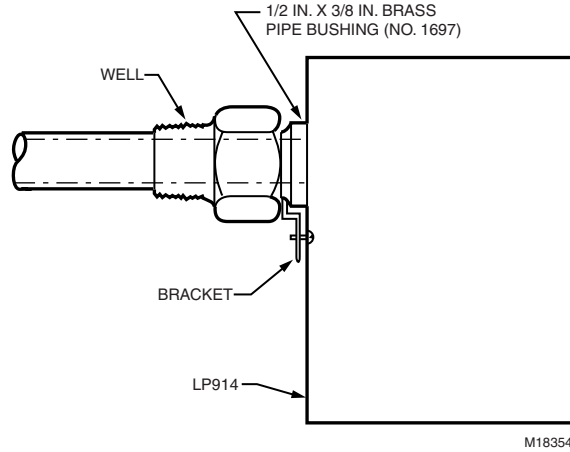

Fig. 6. LP914A mounted in an existing LP902 well.
4. Mount the LP914A. See Fig. 6.